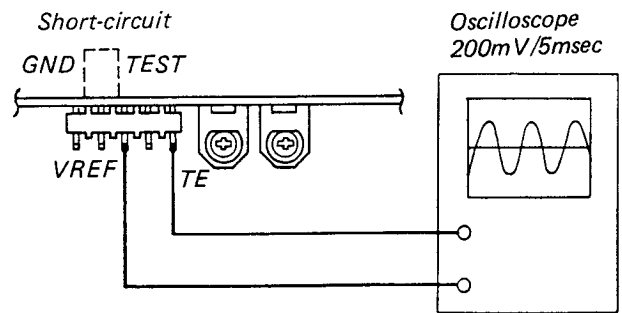

Figure 35
1. Connect oscilloscope to pins "VREF" and "TE" of J707. (Figure 35)